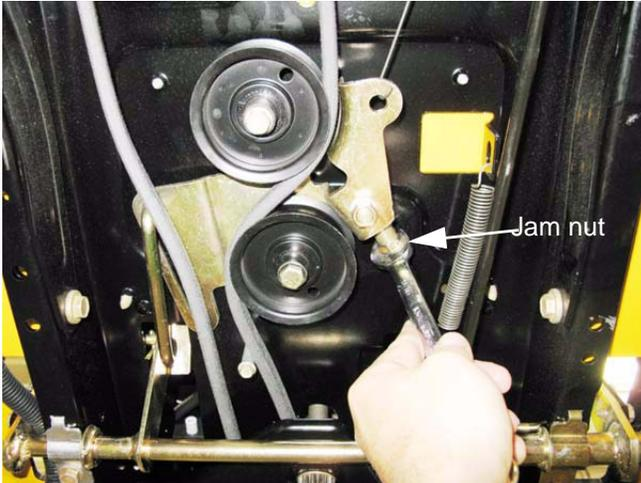

Figure 6.17
3. Loosen the link jam nut using a 9/16" wrench. See Figure 6.17.